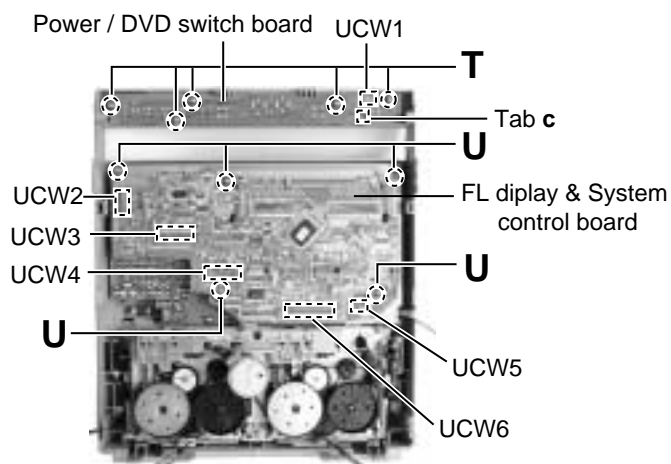

Fig.20
■ Removing the power / DVD switch board (See Fig.20)
■ Removing the FL display & System control board (See Fig.20)